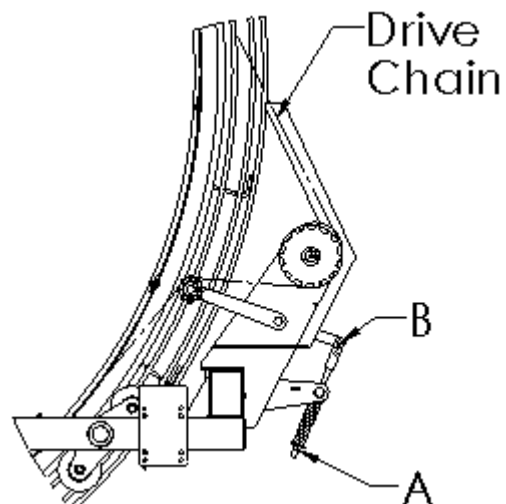

Figure 7-41: Wheel Drive Chain Tension Adjustment
- 2. Tighten nut (A), shown in Figure 7-41, until at desired chain tension.